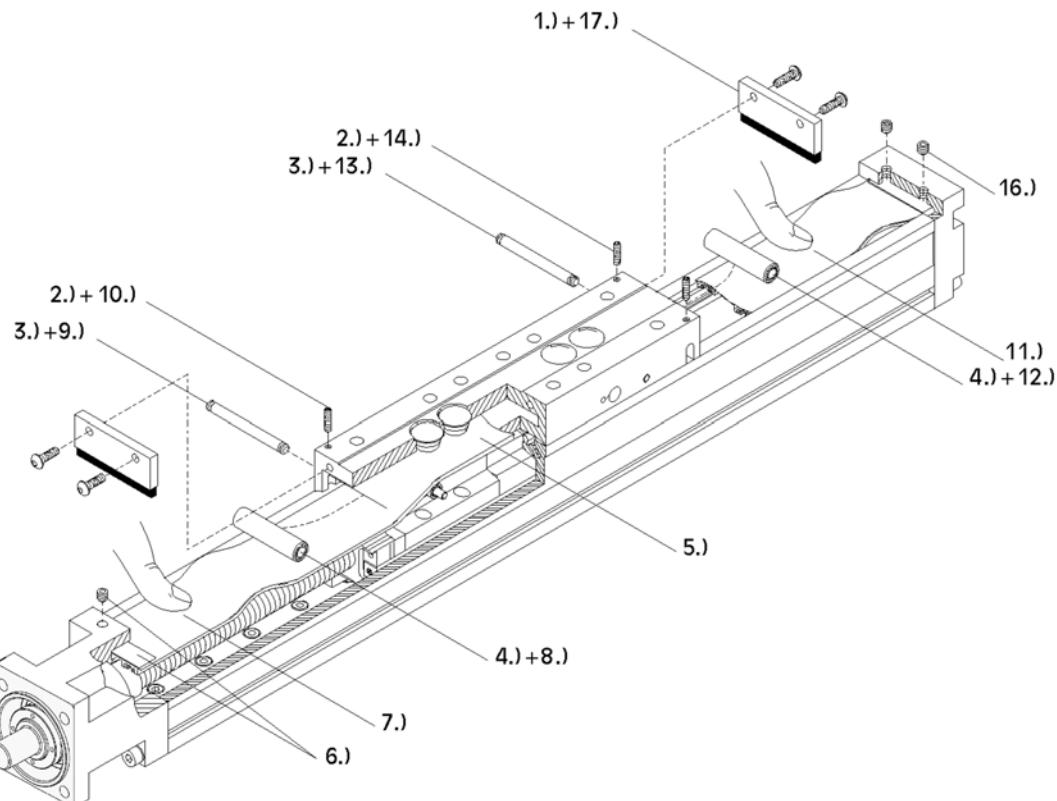

Fig. 16: Replacing the cover strip
1. Fig. 16: Remove both scraper brushes.